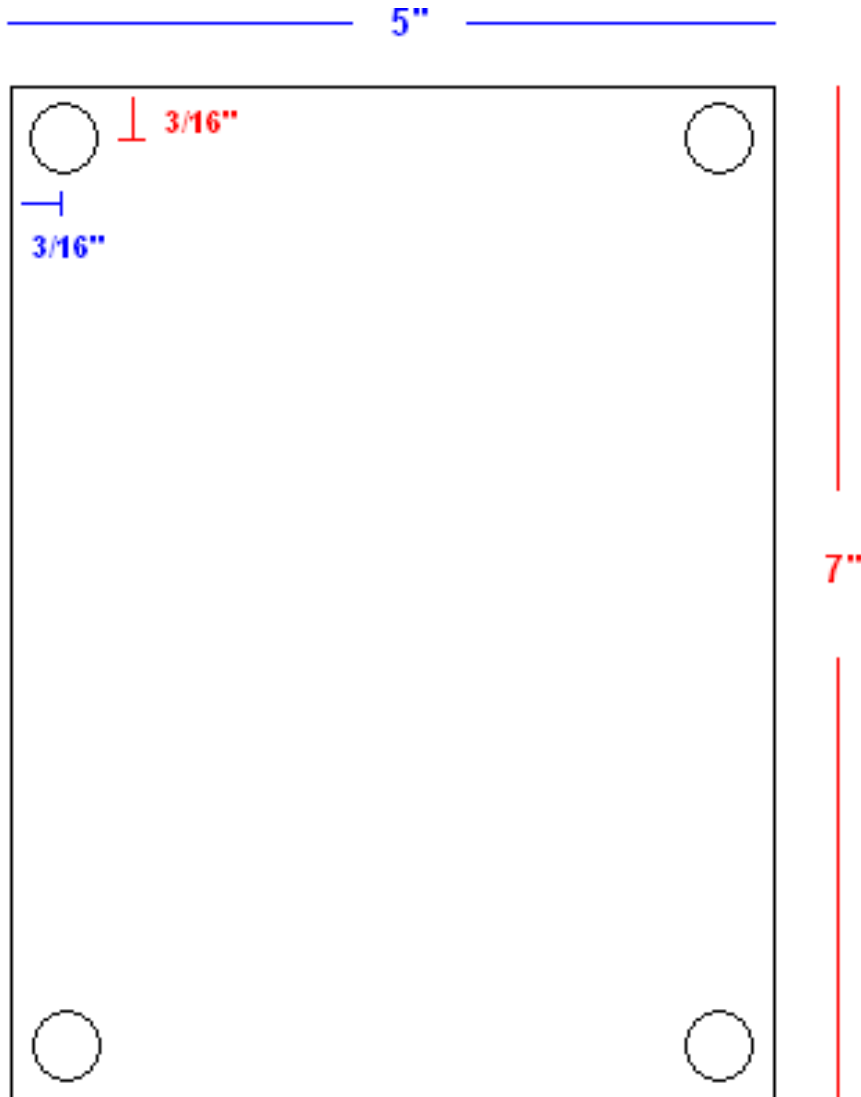

Figure 2
- 2) Locate the place where the monitor is to be installed. Drill four holes according to the dimensions shown in Figure 2. Remove the lid of the monitor (undo 4 corner screws). Mount the monitor using the appropriate screws to fit through the feed-through holes on the four corners.